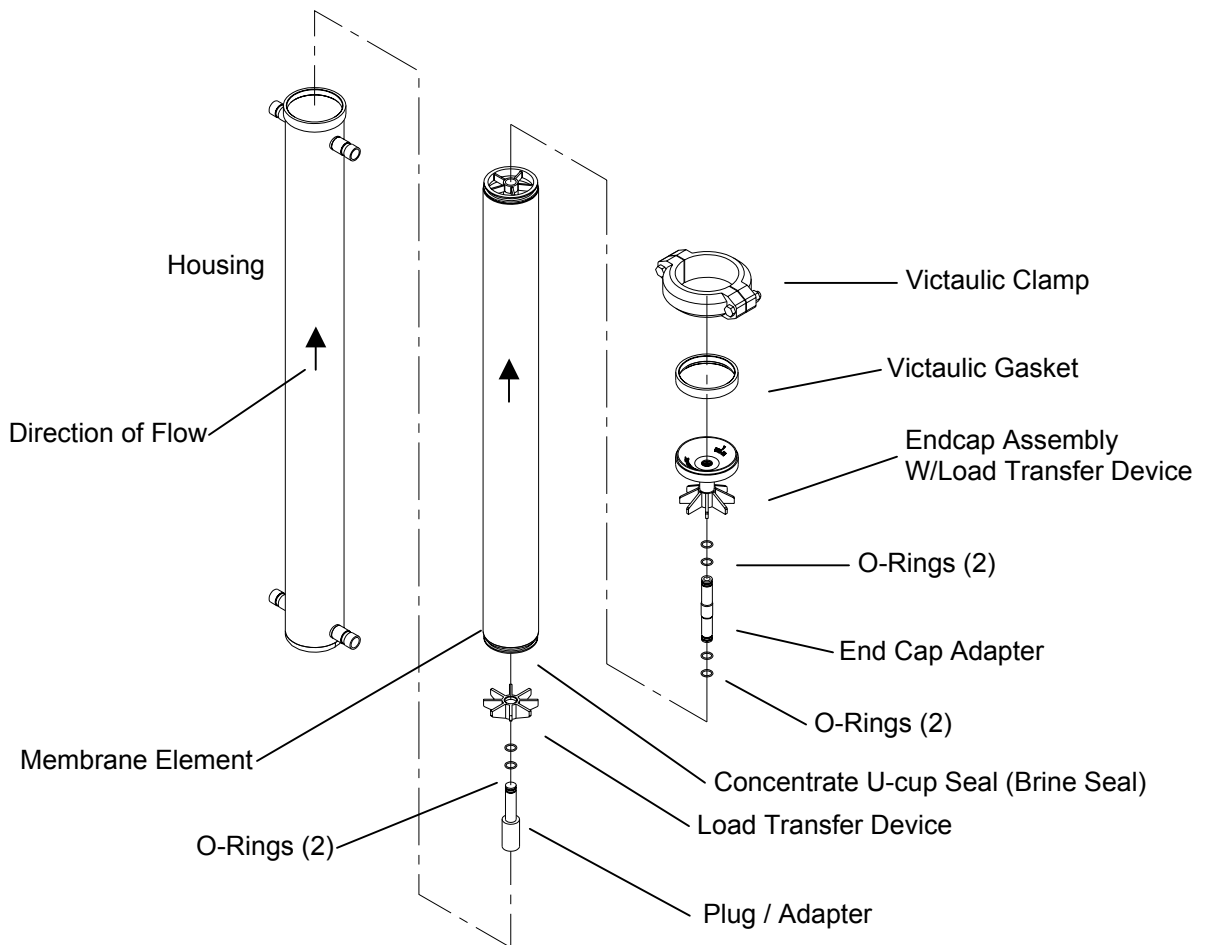

Figure 5.9 Membrane Element Installation
6. Apply a small amount of water-soluble lubricant (such as glycerine or KY jelly) to the entire surface area of one O-ring. Slide the O-ring over the housing adapter until it drops into the O-ring groove. Make certain the O-ring does not twist while sliding onto the interconnector. Repeat until all O-rings are installed on the adapter and interconnector. The adapter has two O-rings and the interconnector has four O-rings. See Figure 5.9.